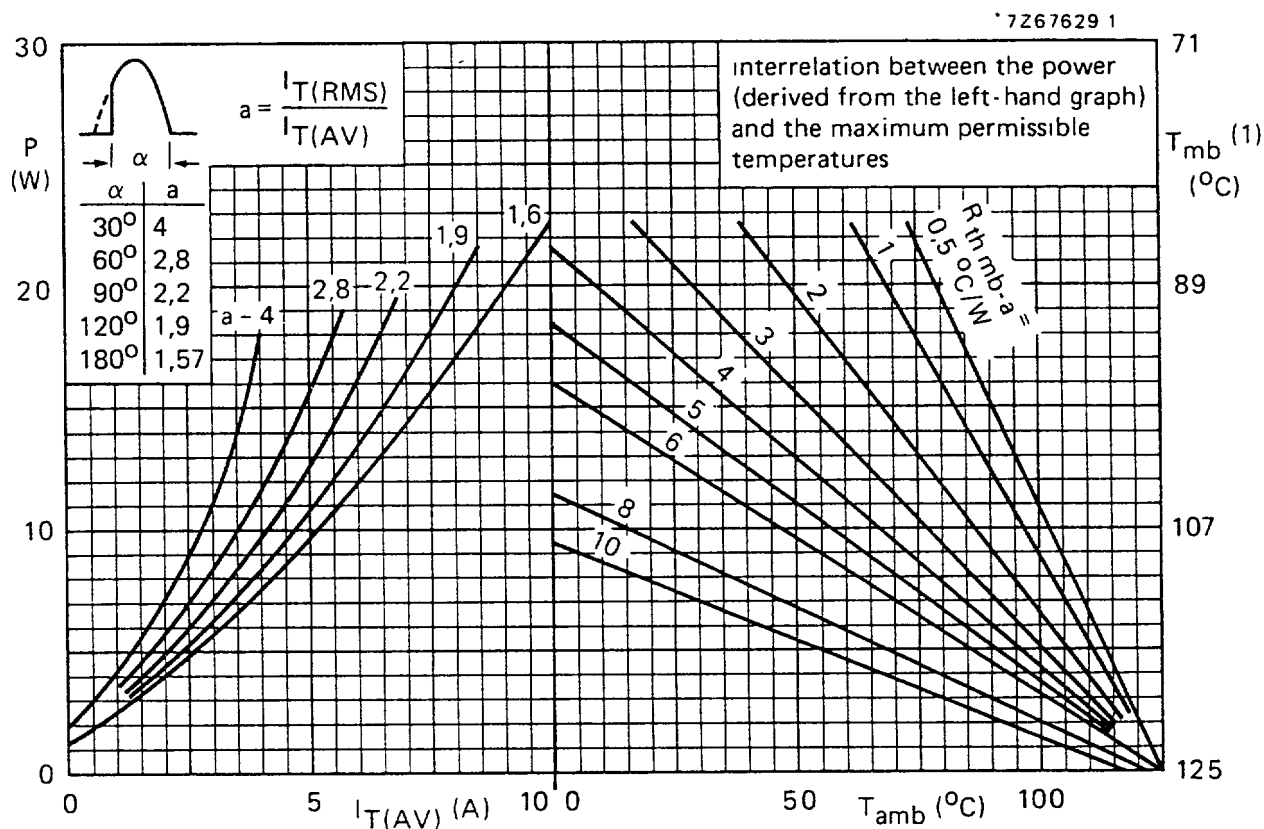

Fig. 3 (1) T_{mb} -scale is for comparison purposes only and is correct only for $R_{th mb-a} \leq 6$ °C/W.
* To ensure thermal stability: $R_{th j-a} < 4$ °C/W (d.c. blocking) or < 8 °C/W (a.c.). For smaller heat-sinks $T_{j max}$ should be derated. For a.c. see Fig. 3.